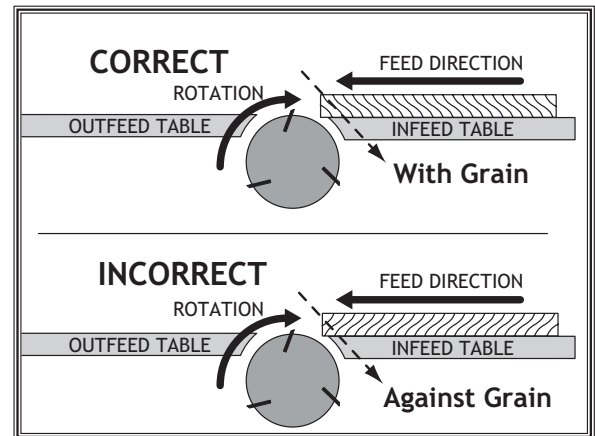

Figure 23. Correct setting for grain alignment.
- **Jointing and surface planing with the grain produces a better finish and is safer for the operator.** Cutting with the grain is described as feeding the stock on the jointer so the grain points down and toward you as viewed on the edge of the stock (Figure 23).